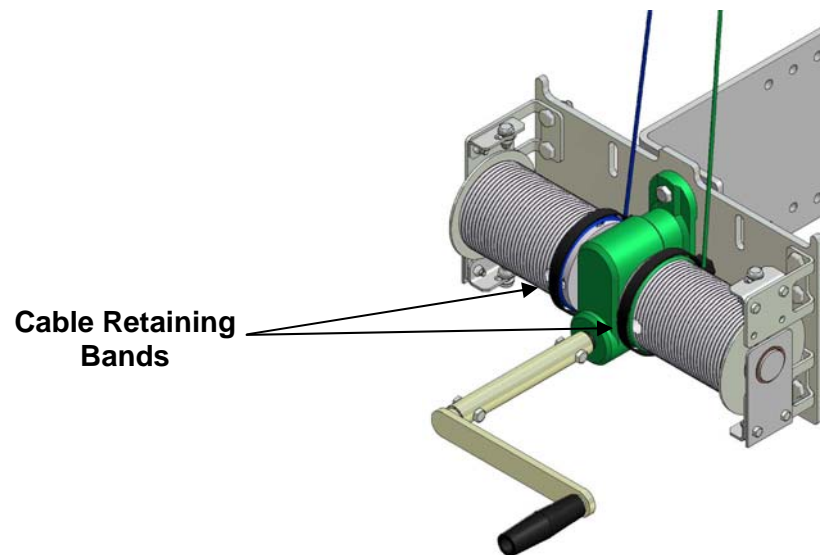

Figure 18
6.2 Fit the Cable Retaining Bands (C1) around both drums right up to where the cable exits to the Top Plates (Figure 18). The Bands prevent the cables springing away from the drum and loosing their groove register should the Drive be over-wound when the door is lowered. Bolt the Safety Cage back onto the Drive.